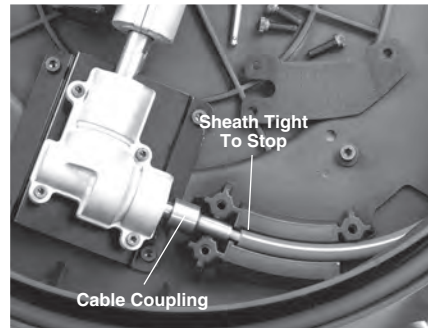

Figure 15 – Changing the Cable Assembly
- Reverse process to assemble, securely attaching all fasteners. Ensure sheath is tight to the stop in the drum cable slot to minimize exposed cable (see *Figure 15*).